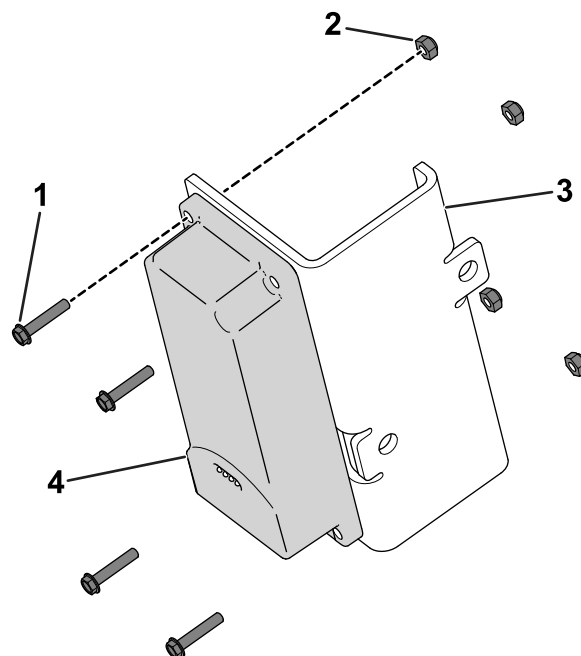

Figure 11
1. Use 4 hex-head bolts (#10 x 1 inch) and 4 locknuts (#10) to secure the telematics device to the device bracket (Figure 11).